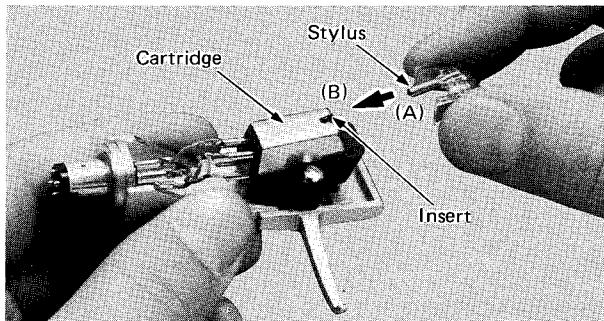

Fig. 2
• Stylus replacement (See Fig. 2)